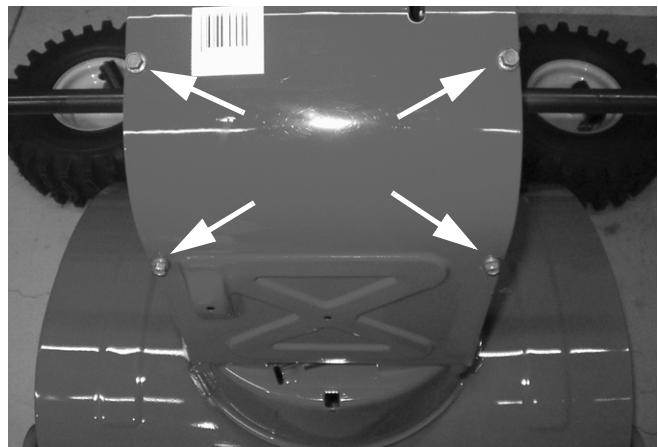

FIGURE 3
7. Using a 3/8" socket and ratchet, remove the four self-tapping screws that attach the frame cover to the frame. See Figure 3. Remove the frame cover.
49. Re-install the frame cover and four self-tapping screws that attach to the frame. See Figure 3.